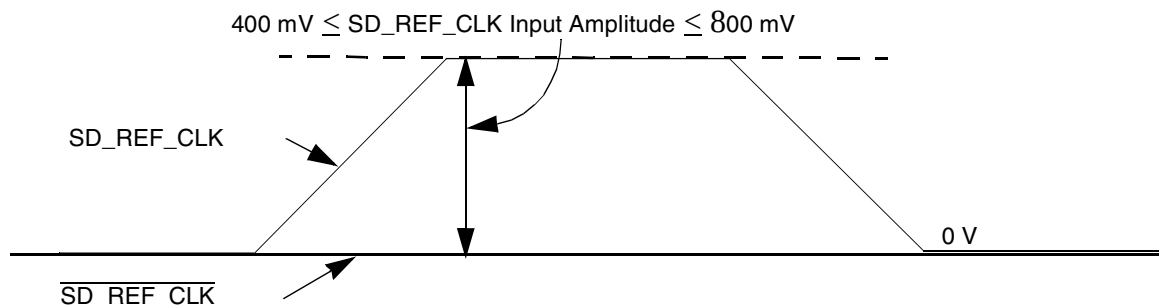

**Figure 43. Single-Ended Reference Clock Input DC Requirements**
- The SD\_REF\_CLK input average voltage must be between 200 and 400 mV. Figure 43 shows the SerDes reference clock input requirement for single-ended signaling mode.